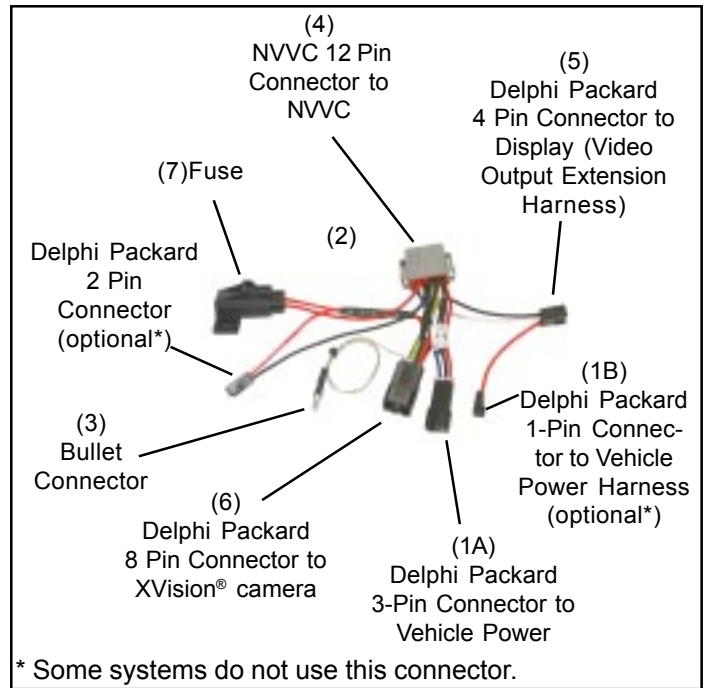

Figure 2 Harness Adapter
4. Connect the 12 pin connector (4) of the harness adapter(2) to the 12 pin connector on the NVVC. Be sure the latches on each side of the connector snap into place. Connect the remaining connectors to their appropriate harnesses as indicated in Figure 2.
5. Connect the video shield drain to the harness adapter(3) and to the chassis ground. Select a suitable chassis ground that provides the ring terminal attachment to unpainted metal. Do not attach the ring terminal to a motor (such as the windshield wiper), an electrical relay mounting or to a CB Radio or antenna mounting screw or stud. These practices may introduce electrical interference noise into the video system.